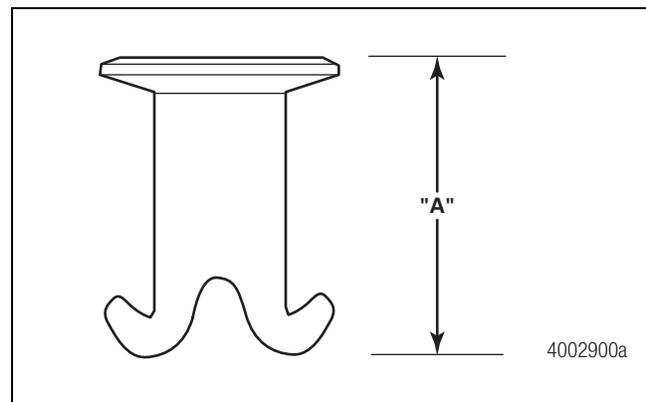

Figure 8.14
- B. Measure distance A, which must be 0.460-0.475-inch (11.684-12.065 mm). Figure 8.14.